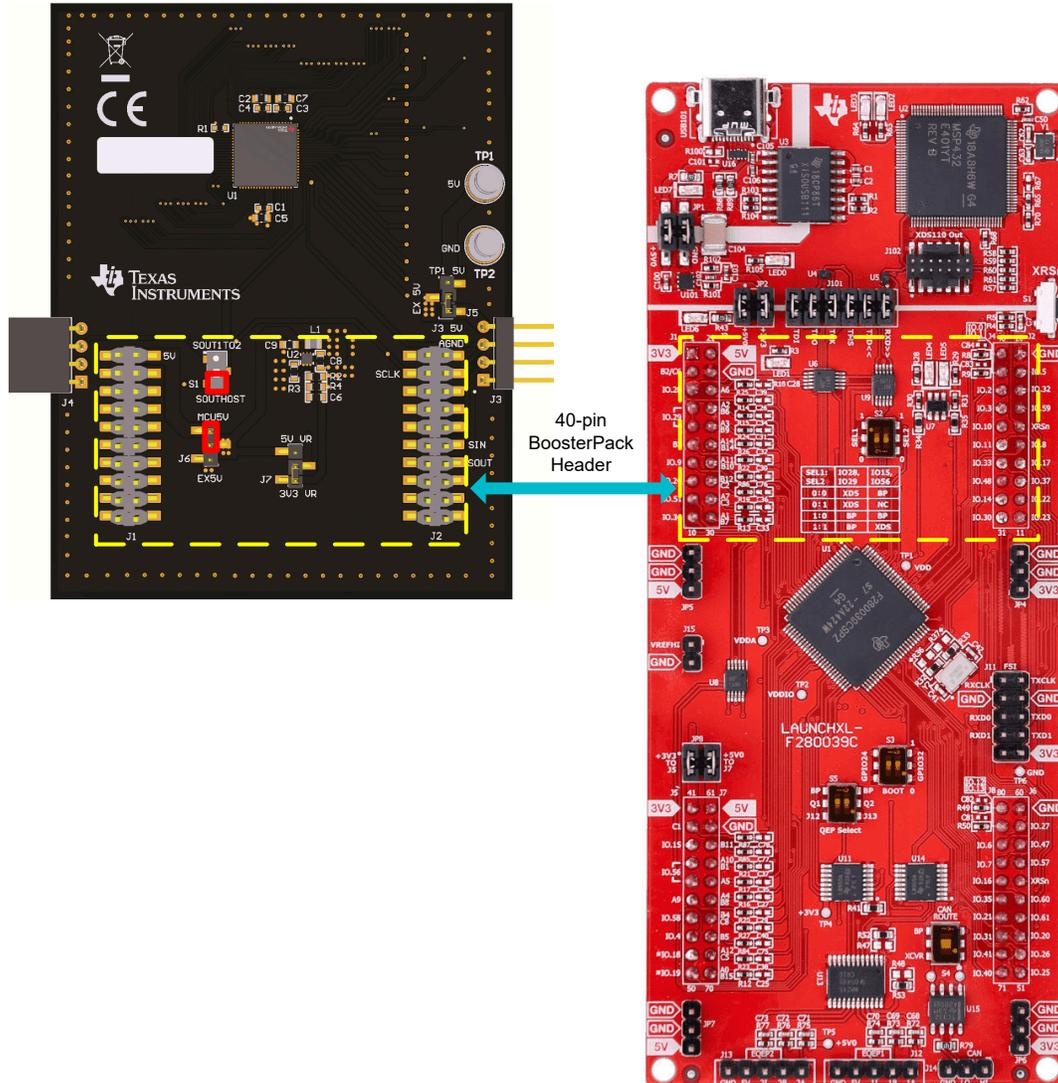

Figure 2-3. Single LP5891Q1EVM Connected with the TMS320F280039C LaunchPad
- b. Put the J6 jumper on "MCU5V" and the middle, and set the switch S1 towards "SOUTHST" , which are marked with red boxes in Figure 2-3.
- c. Connect BoosterPack connectors (J1, J2) on the LP5891Q1EVM with the TMS320F280039C LaunchPad, the connection method is shown in Figure 2-3.